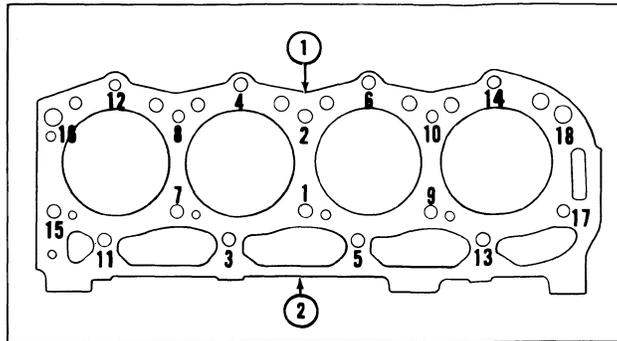

Figure 17
5. Tighten the cylinder head bolts in the proper sequence, as shown in Figure 17. Tighten the bolts progressively in three steps; first to 90 lbs. ft. (12.42 kgm), then to 100 lbs. ft. (13.8 kgm), and finally to 110 lbs. ft. (15.2 kgm).